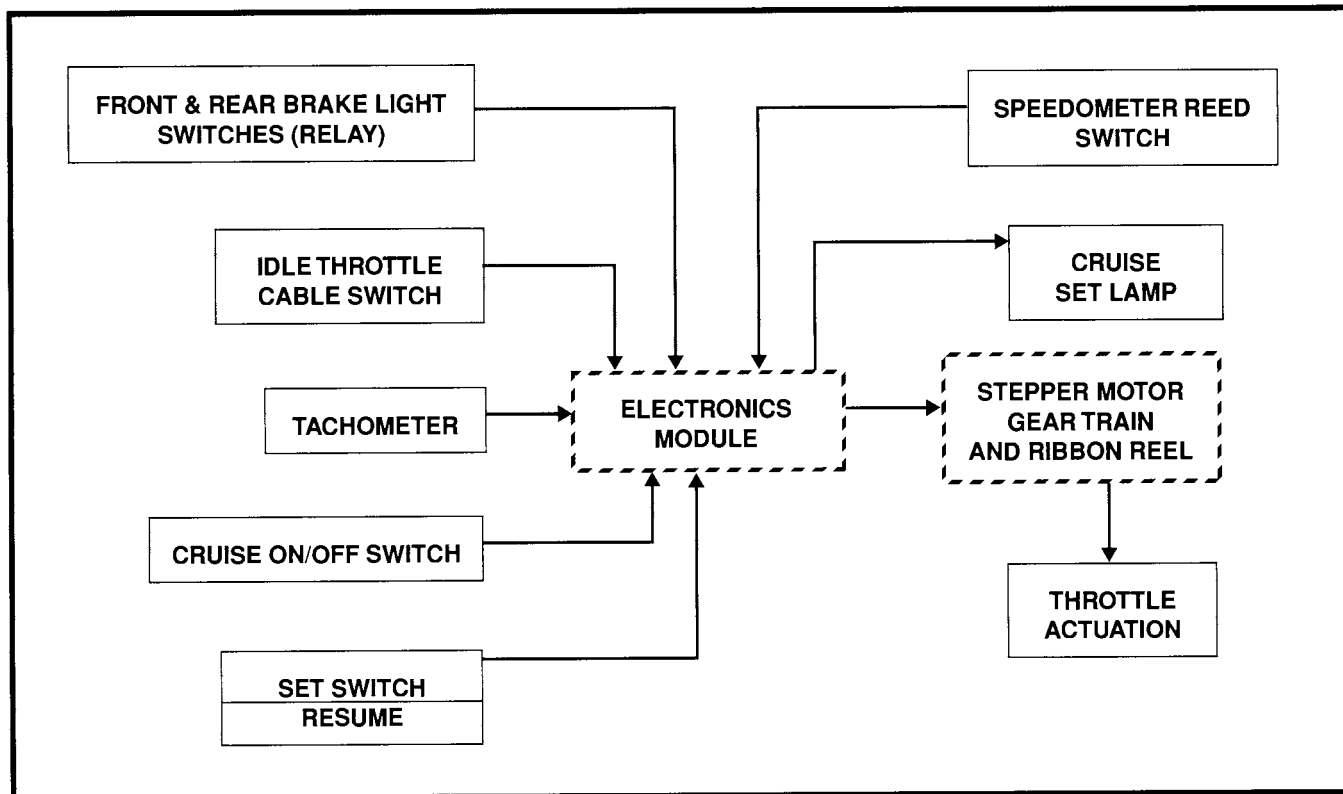

Figure 15. Cruise System Diagram
1. See Figure 15. To illustrate how the system works, the following steps explain how to engage, allow the cruise control to control speed and disengage the system.